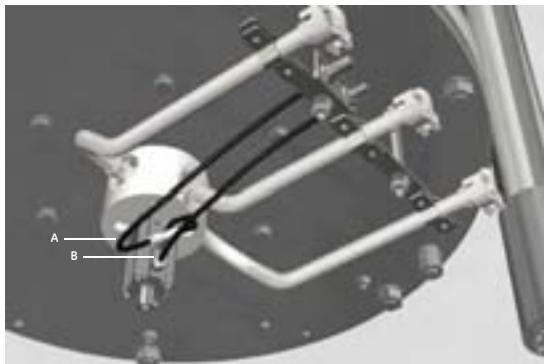

Figure 5.67: Pneumatic tubes **A** and **B**, the connection between the pneumatic cylinder and the tube holder.
- 5 Firmly press the release washer and hold it into the connector while removing the pneumatic tube from pneumatic cylinder (see Figure 5.67 A). Repeat the procedure to disconnect the other pneumatic tube (B).